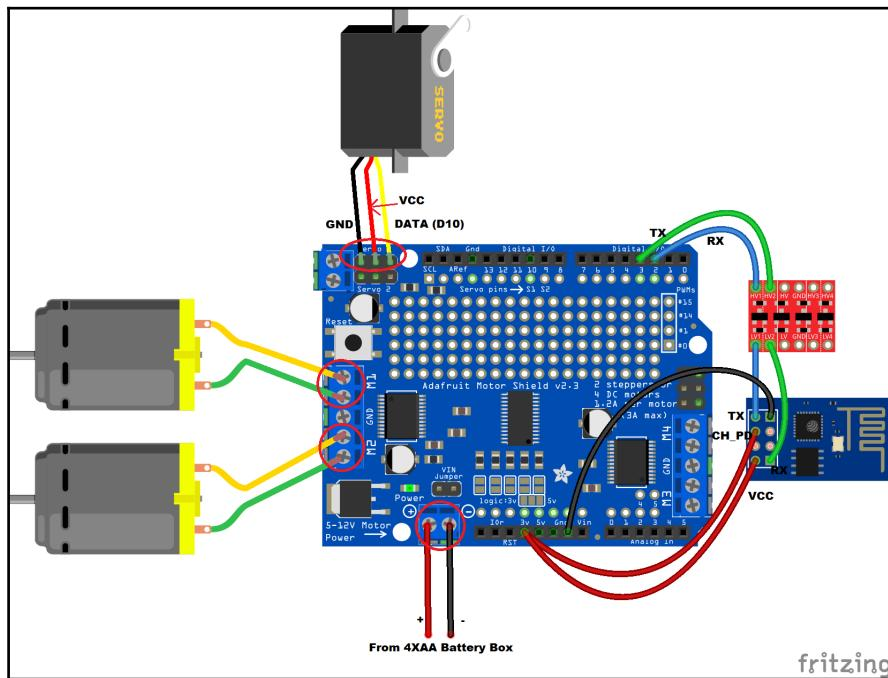

Figure 7.11: Wiring diagram between Arduino Uno and ESP8266 through the bi-directional logic level converter
Follow the instructions given here to assemble the electronics on the Mini Robot Rover chassis. Use *Figure 7.11* to make connections between all the electronic components:
9. Use double-sided foam tape to attach the ESP8266 module and bi-directional logic level converter. *Figure 7.11* shows the wiring between the Adafruit Motor/Stepper/Servo Shield + Arduino UNO stack and the ESP8266 through the bi-directional logic level converter: